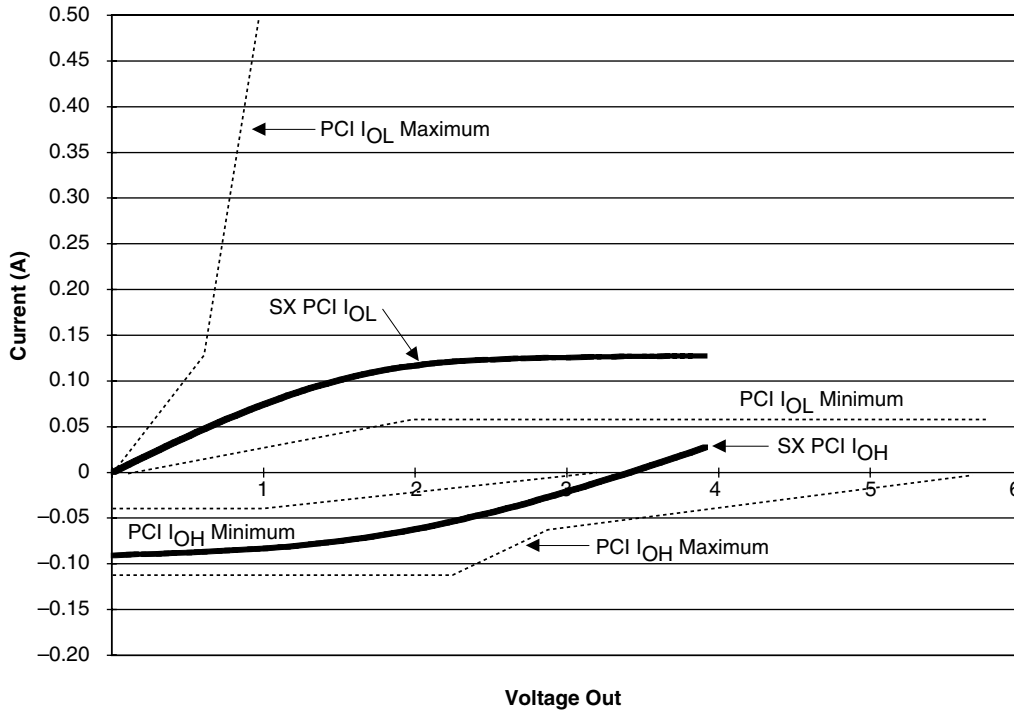

Figure 9 • 3.3V PCI Curve for A54SX16P Family
1. Refer to the V/I curves in Figure 9. Switching current characteristics for REQ# and GNT# are permitted to be one half of that specified here; i.e., half size output drivers may be used on these signals. This specification does not apply to CLK and RST# which are system outputs. "Switching Current High" specifications are not relevant to SERR#, INTA#, INTB#, INTC#, and INTD# which are open drain outputs.
2. Maximum current requirements must be met as drivers pull beyond the last step voltage. Equations defining these maximums (C and D) are provided with the respective diagrams in Figure 9. The equation defined maxima should be met by design. In order to facilitate component testing, a maximum current test point is defined for each side of the output driver.
Figure 9 shows the 3.3V PCI V/I curve and the minimum and maximum PCI drive characteristics of the A54SX16P family.